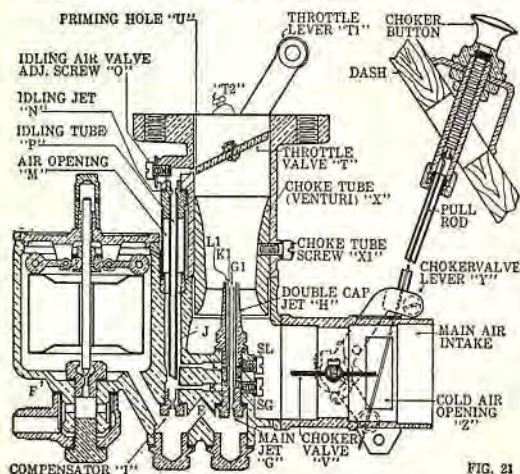

FIG. 21
1. The choke tube (X, Fig. 21) measures the amount of air taken into the engine. The flow of air increases as the engine speed increases.
Fig. 21. Model "U" carburetor. Differs from the early model "L." Zenith in that there is a double cap jet (H), or three jets or spray nozzles (L1, K1, G1) instead of two, and the calibrated opening of idling jet (N) is placed above the top of tube (P) instead of at the bottom.
Air choker connection. The air intake on the Zenith carburetor is provided with a choker valve (V) (Fig. 21), which is operated through the air shutter lever (Y) connected with a choker button on the dash, for use in starting and warming up a cold engine. Usually a piece of tubing connects the main air connection with a stove on the exhaust pipe for preheating the air before it enters the carburetor. The air shutter (or choker valve) lever (Y) is fitted with a spring which normally holds the choker valve (V) in a wide-open position (as now shown).
The air connection is supplied with a temperature regulating band around an air opening (Z) (Figs. 21, 22), which can be adjusted so as to admit cold air in warm weather or shut off all cold air in cold weather.
Idling. At low or idling speed, when the throttle (T) is nearly closed, the main jet (G) and cap jet (H) give little or no gasoline, but there is considerable suction at (U) (Fig. 21). Gasoline from compensator (I) flows into well (J) and is then drawn through the idling tube (P), through the calibrated idling jet hole (N) at the top of (P), which in turn is adjustably open to the air, through idling adjusting needle valve (O). The suction lifts the gasoline through tube (P) and, in combination with the air passing the throttle (T), forms the idling mixture.
Choke tube (X). This is really an air nozzle (Venturi), of such a stream-line shape as to allow the maximum flow of air, without any eddies, and with the least resistance. It is held in place by a screw (XI) (Fig. 21) and can easily be changed when the butterfly throttle (T) has been removed. If stuck, remove the cap and jet at the lower part of the carburetor and drive it out with a brass rod.
If the car does not attain its proper speed: (1) the mixture may be too lean; try adjusting slow speed (O); if the trouble is chronic, try larger main jet (G); (2) if the mixture is too rich, try regulating air intake at (Z) (Fig. 21); if the trouble is still chronic, try a smaller-size main jet (G).